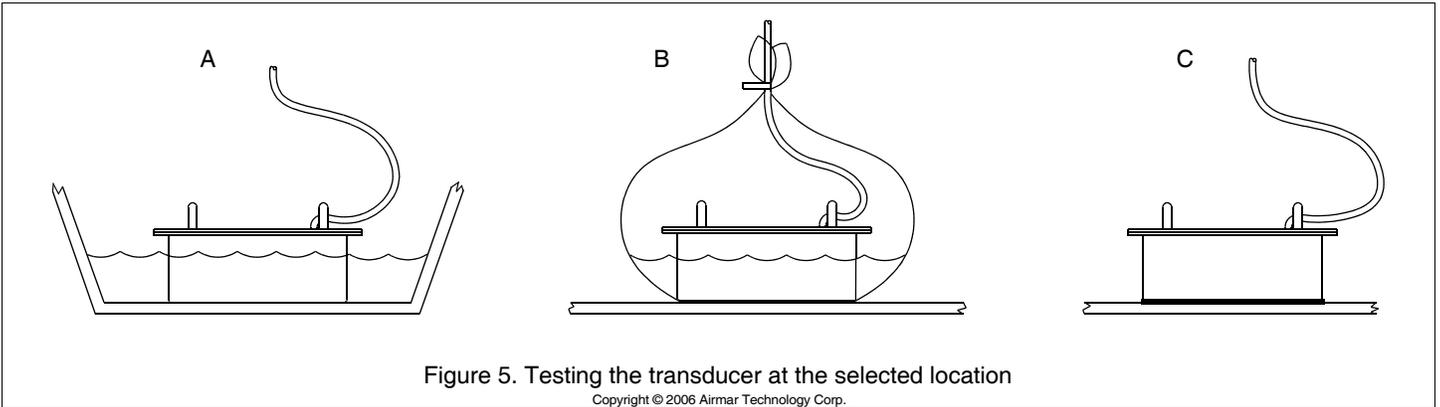

Figure 5. Testing the transducer at the selected location
- A. If the transducer will be located near the stern and the boat has a minimum deadrise angle**—Clean away any build-up of dirt and/or grease using detergent or a weak solvent such as alcohol. Place the transducer against the hull and allow bilge water to cover the surface where they touch (Figure 5-A).
- B. For a moderate deadrise angle**—If the hull surface is not smooth, grind it with a disc sander. Place the transducer inside a thin plastic bag. Partially fill the bag with water and close it tightly with a cable tie. Wet the surface of the hull and press the active face of the transducer against it through the bag (Figure 5-B).
C. For any location—If the hull surface is not smooth, grind it with a disc sander. Coat the active face of the transducer with a water-based lubricant (such as K-Y® jelly). With a twisting motion, press the face firmly against the hull (Figure 5-C). After testing, wipe away all traces of the lubricant from the transducer’s face.